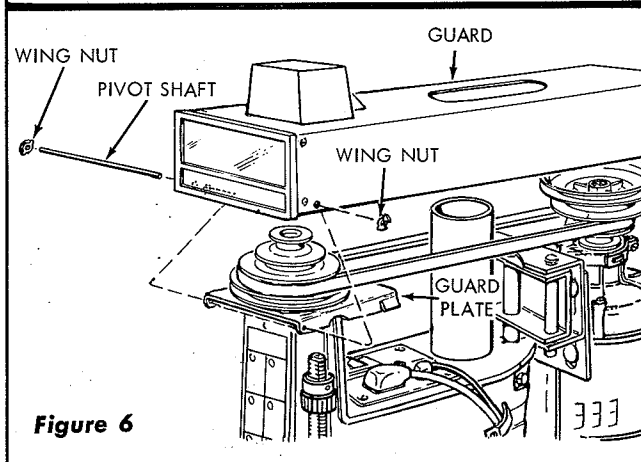

Figure 6
12. Attach the guard to the guard plate at spindle end of frame with the pivot shaft and two wing nuts. (See figure 6.) This is accomplished as follows:
Screw one of the wing nuts on the pivot shaft, lower the guard into operating position until the pivot shaft holes in the guard are aligned with corresponding holes in the guard plate. Then slide the pivot shaft through the holes and install the wing nut at other end of shaft. The guard should raise and lower without interference. (See figure 6.)